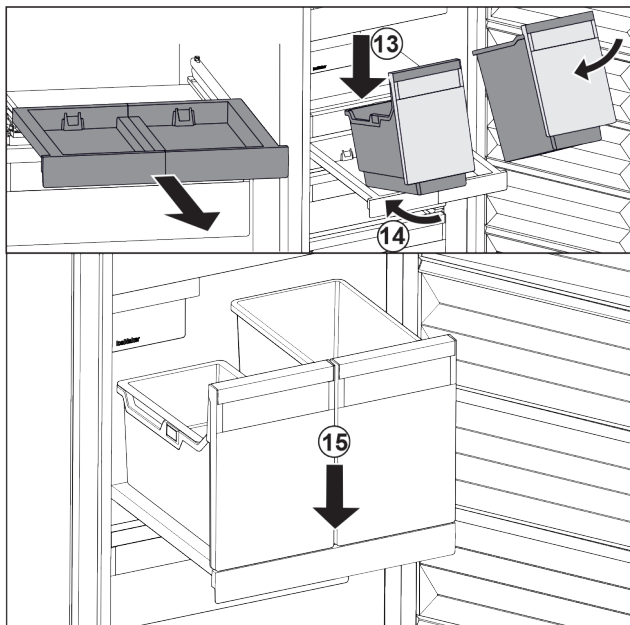

Fig. 129
- Place the container at an angle on the pull-out board. Fig. 129 (13)
- Slide the container to the back at an angle. Fig. 129 (14)
- Place container in the front. Fig. 129 (15)